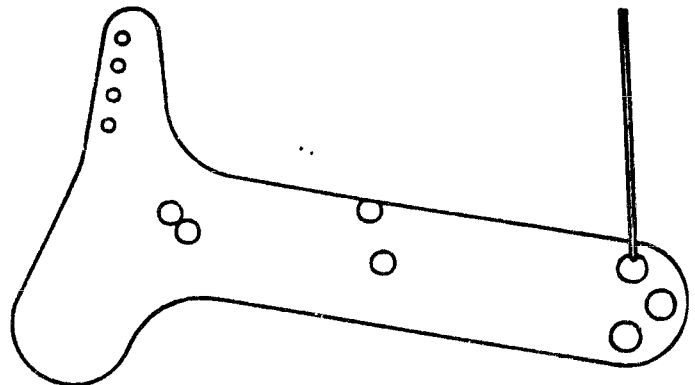

Fig. 4
3. Install spring into front most governor arm hole (fig. 4).